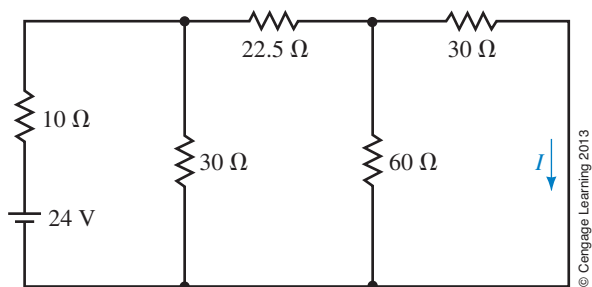

FIGURE 9–108
51. a. Determine the voltage V in the circuit of Figure 9–109.